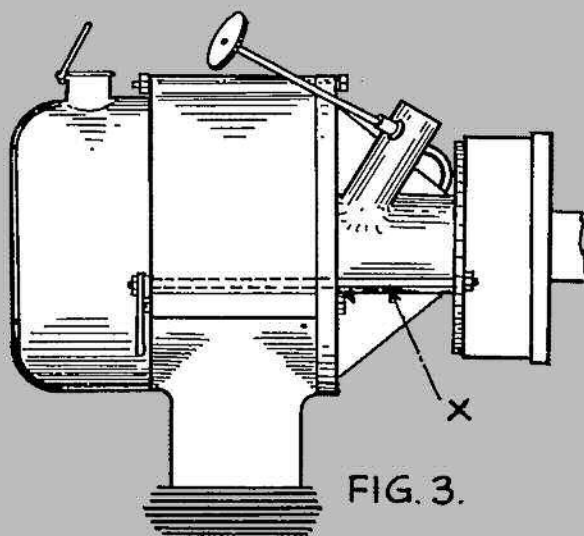
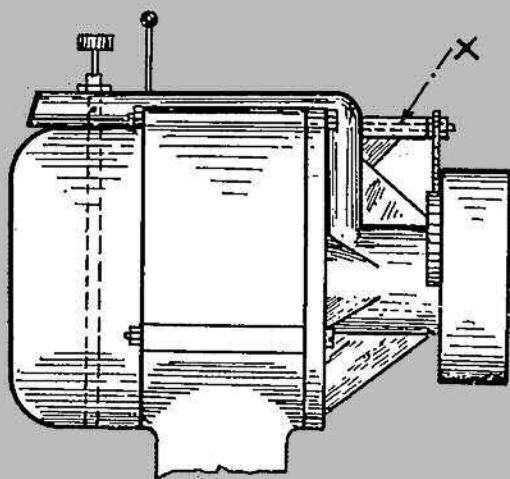

FIG. 3.
FIG. 4.
in Fig. 3 (X) of a starboard elevation, it might be better to carry this through a hole along the top of the crankcase, and to give it extra support by passing it through an extra projection cast integral with one side of the induction pipe and web, as in Fig. 4 (X).
A simpler solution to the petrol feed, dispensing with the long pipe, might be to cast a long induction pipe passing back along the top of the crankcase and petrol tank. The forward part would be cast integral with the front cover-plate passing vertically up the front face with a right angle bend to meet the corresponding rear portion. Of course it is not essential to have this rear portion cast integral with the crankcase, but if it were, better vapourisation of fuel would result from its becoming hot (Fig. 4). Actually, it would be drilled through a solid lug, along with the bolt hole, and spindle-bearing on either side.